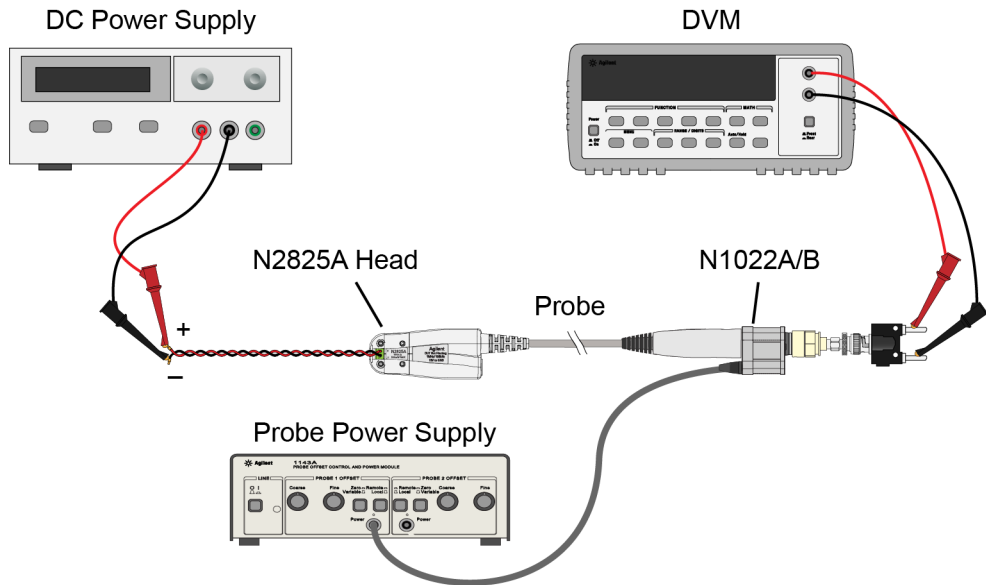

Figure 52 Test Setup for Measuring V_{out}
- 4 Move the multimeter's leads to the banana plug on the output of the N1022A/B as shown in Figure 52.
- 10 Connect the multimeter's leads to the banana plug on the output of the N1022A/B as shown in Figure 52 on page 102.